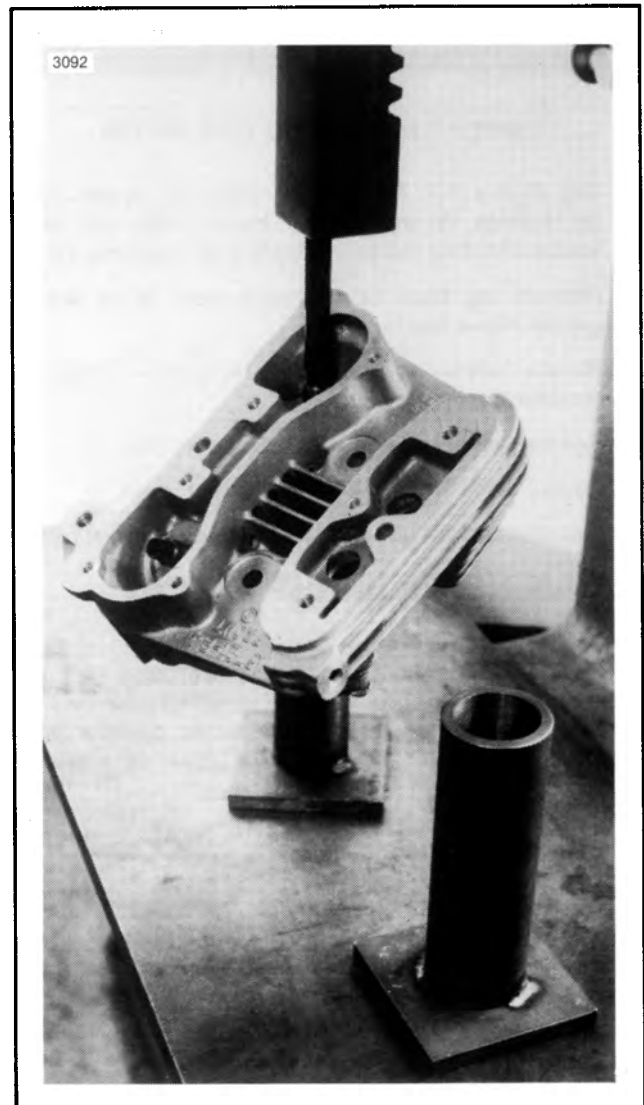

Figure 3-10. Installing Shoulder-less Valve Guides
4. See Figure 3-10. Install shoulder-less guides using **VALVE GUIDE INSTALLATION TOOL**, Part No. HD-34731 and **DRIVER HANDLE**, Part No. HD-34740. Lube and press guide until the tool touches the machined surface surrounding the guide. At this point, you have reached the correct guide height.